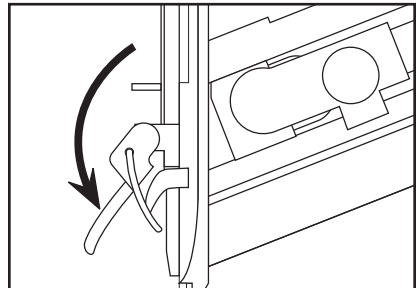

Figure 7. Releasing quick release latch.
5. Flip up the quick release latch located on top of the nailer nose assembly as shown in **Figure 7**.